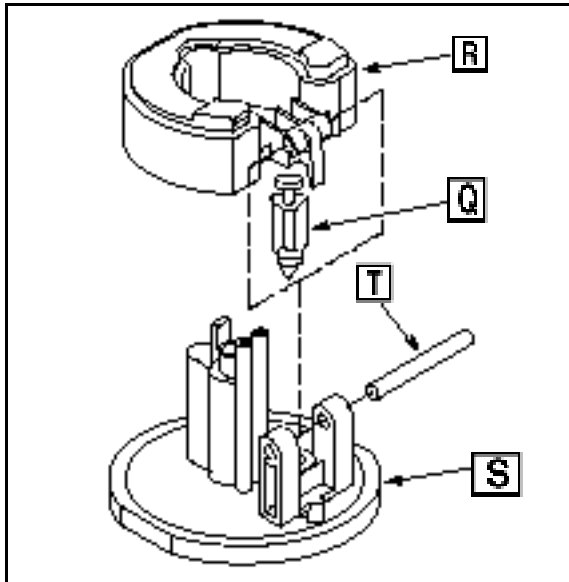

Fig. 146
14. Put the inlet needle ([Q] Fig. 146) into the slot on the float (R).
15. Place the needle and float assembly into the float base (S).
17. Install the float hinge pin ([T] Fig. 146).